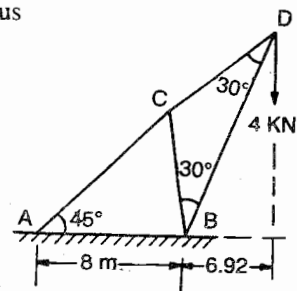

Fig. 14.30
11. The load at the crane head in figure 14.30 is 4 kN. Determine the stresses in various members.